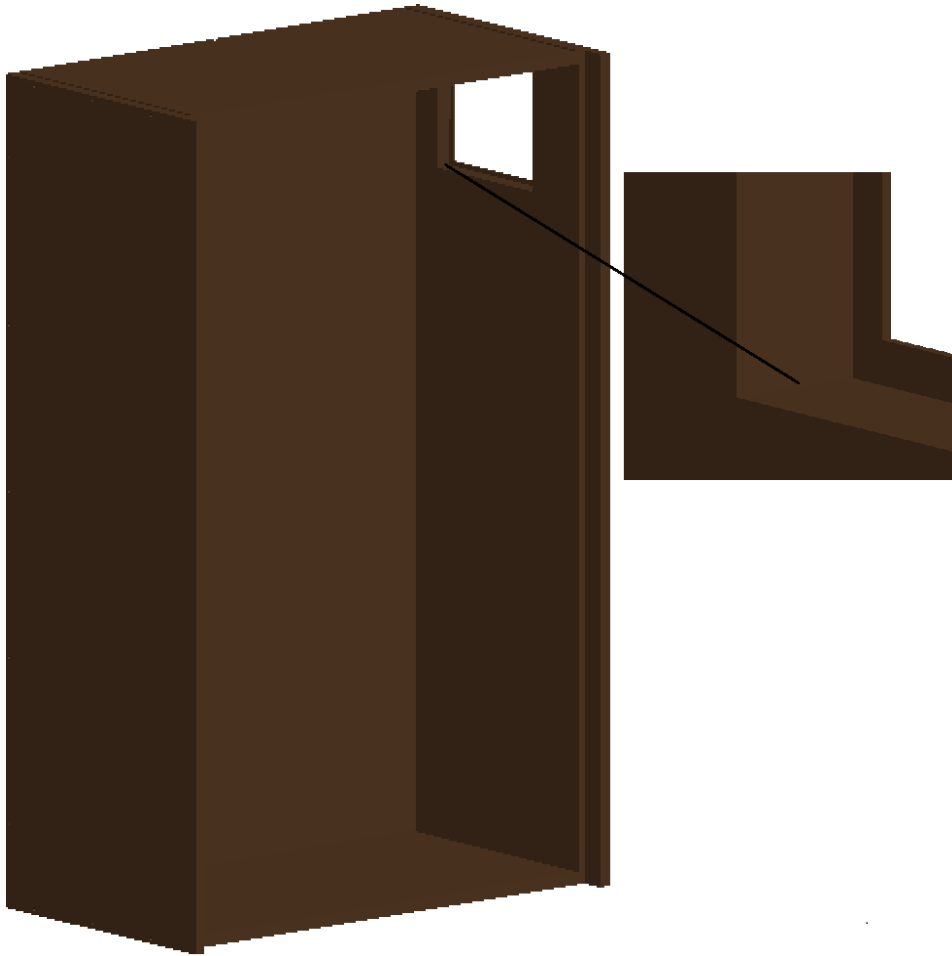

Fig. 2.1 Side Cutouts
- Make a rectangular through hole on the side or rear wall of the cabinet with 7/8" less than the width and height of the cooling unit. Make 1/2" wide lips to place the gaskets as shown in Fig. 2.1.